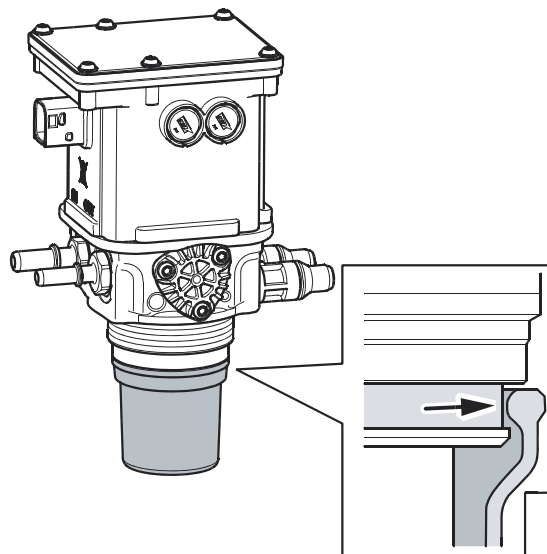

Figure 5-5-17 Sealing Diaphragm
11. Ensure that the edge of the diaphragm is sitting in the groove. See Figure 5-5-17.